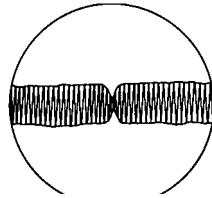

Figure 3-12. Monitor oscilloscope display, one antenna missing.
d. Monitor Oscilloscope Operation. The monitor oscilloscope is provided primarily for monitoring the 455-kHz intermediate frequency (IF) output of the No. 1 DF receiver. One of two monitor oscilloscopes is supplied with the df set: the HP-120B or the AN/USM 318.
(1) Monitor Oscilloscope HP-120B. The time base of this unit is synchronized with the df set scan rate of 90 Hertz by means of a pulse derived from the goniometer drive. The time is adjusted so that a complete scan of the antenna system is displayed. The display is a continuous monitor of the individual antenna outputs. A faulty antenna cable or connection in the antenna field will be immediately observed as a hole in the IF pattern display (fig. 3-12).